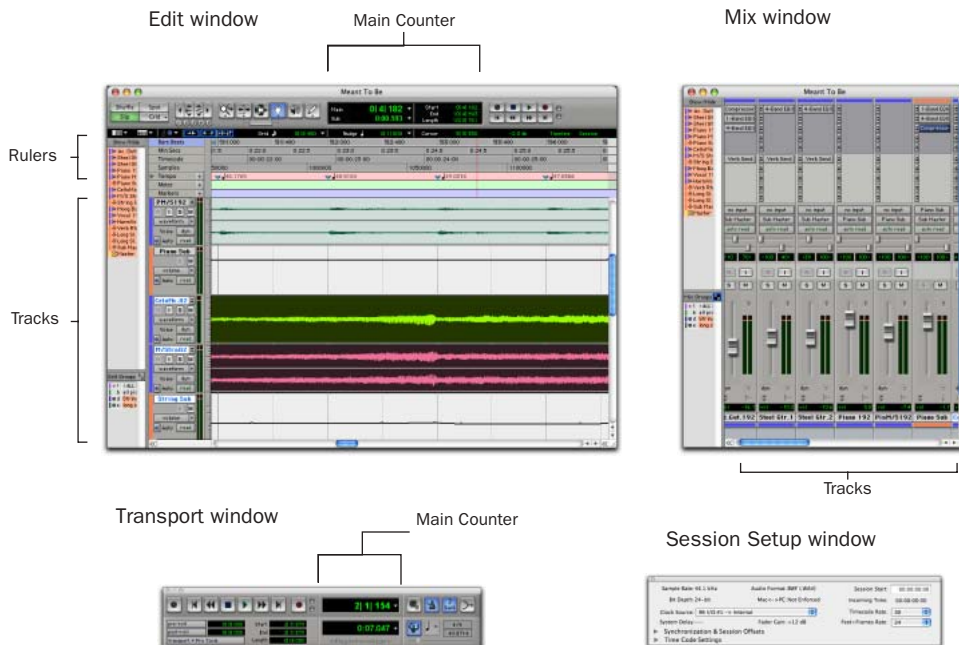

Figure 8. Main session windows
- 6 Click Save. The new session opens its Mix, Edit, and Transport windows (see Figure 8 on page 80).